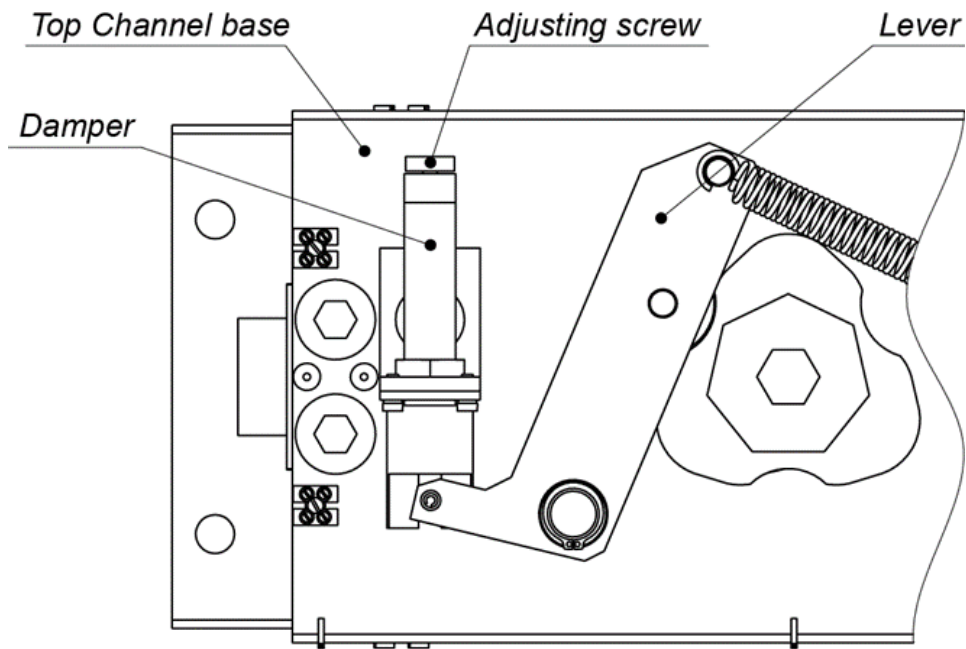

Figure 23. The turnstile damper RTD-20.2
1. Remove the cover (10) from the top channel (9) (see Sect. 6).
2. Unscrew the locking screw of the damper's adjusting screw with the hex-nut wrench SW1.5, the locking screw is situated at the end face of the adjusting screw (Fig. 23).